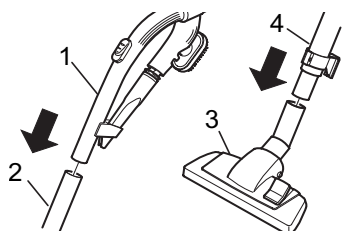

Fig.3
2. Push the handle (Fig. 3/1) into the upper end of the telescopic tube (Fig. 3/2).
3. Push the floor nozzle (Fig. 3/3) onto the lower end of the telescopic tube (Fig. 3/4).